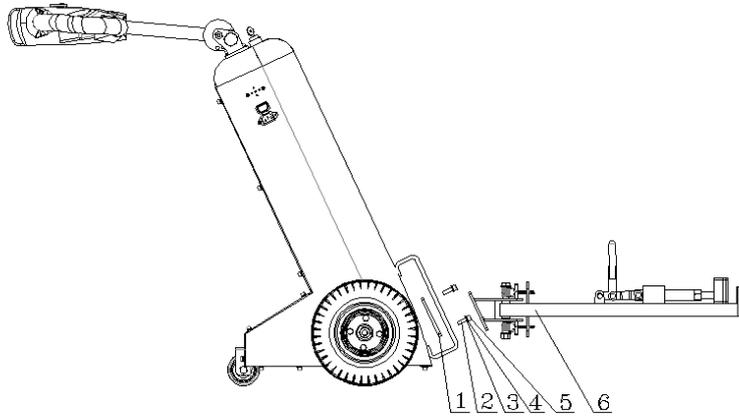

Fig 1
3.1) Loosen and remove the setting Washer 8, Spring washer 8 and screw M8*25 (No.3, No.4,No.5,fig.1)
3.2) Put the joint plate (No.1, fig.1) under the mainframe and hook above the mainframe